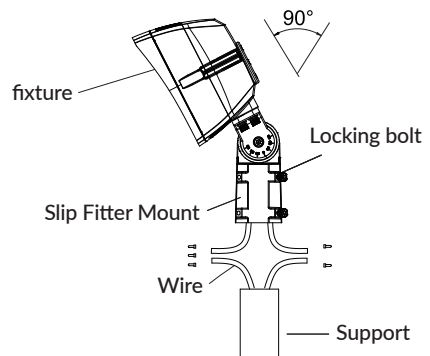

Figure 3-5
- Place the Slip Fitter onto the pole and secure it by firmly tightening the Locking Bolts (Figure 3-5)
- To adjust the fixture's angle, loosen the Locking Bolt, position the fixture to the desired angle and then retighten the Locking Bolt securely to lock it in place. The adjustable angle is 0~+/-90° (Figure 3-5).